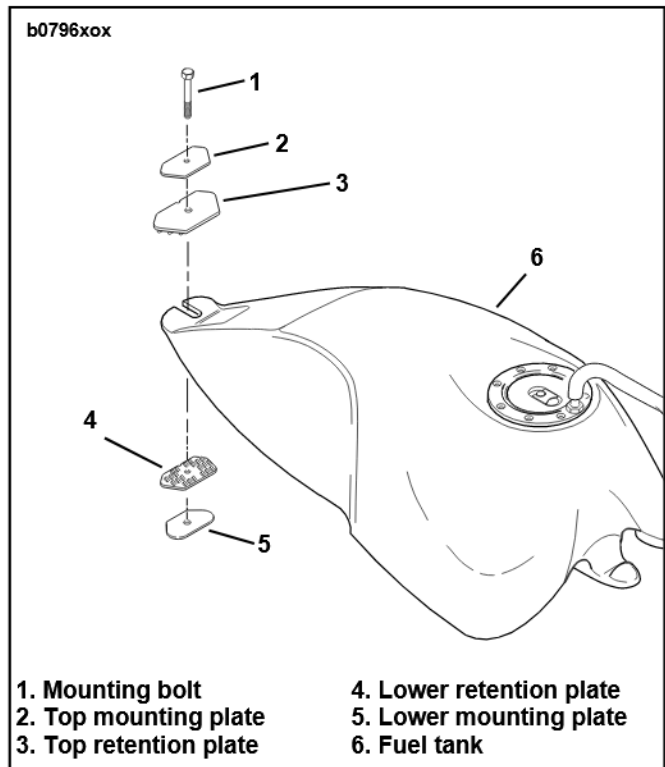

Figure 6. S3 Fuel Tank Mounting Arrangement
The original fuel tank mounting parts for the S3 models were recalled (campaign number 0814) and the new parts are shown on Figure 6. If the new parts are not on your vehicle, perform the recall together with this upgrade. Per the recall, the procedure for removing and installing the fuel tank has been modified. Refer to the procedures in this Instruction Sheet instead of those in the Service Manual.
4. See Figure 6. Remove bolt (1), top mounting plate (2) and top retention plate (3). Lift tank and remove lower retention plate (4) and lower mounting plate (5).
20. See Figures 6 and 9. Place the top retention plate and a mounting plate in position on top of the fuel tank rear mounting projections. **It is important that the prongs on the retention plate face toward the rear of the vehicle and be in contact with the fuel tank. Also, the shorter straight side of the mounting plate must face the front of the vehicle.**
21. See Figure 6. Install mounting bolt (1) and tighten to a torque of 18-23 ft-lbs. (24.4-31.2 Nm). Wait five minutes and retighten to a torque of 18-23 ft-lbs. (24.4-31.2 Nm).